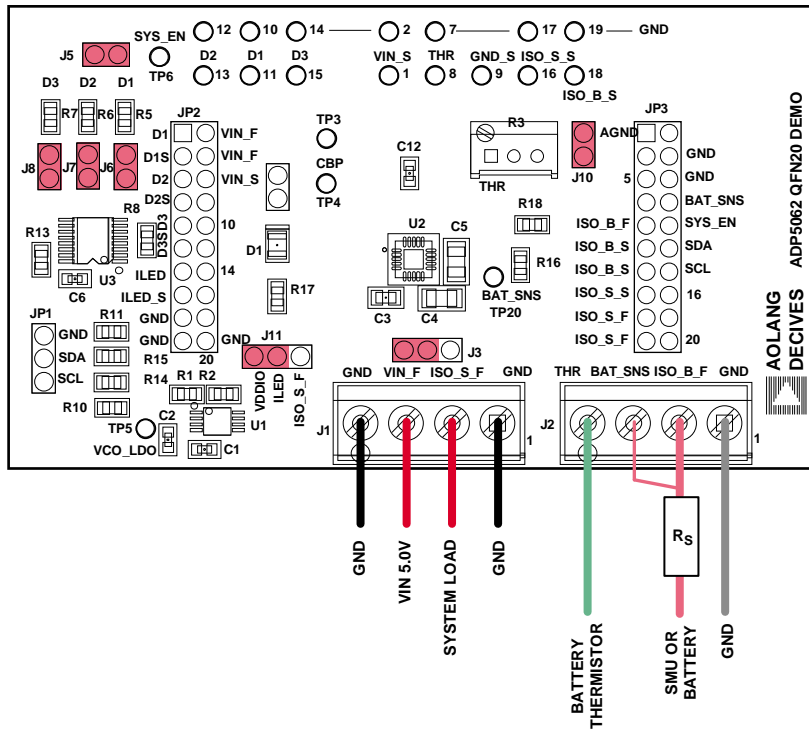

Figure 5. ADP5062 LFCSP Demo Board Typical Operation Setup
The ADP5062 fast charge constant voltage (CV) regulation is optimized for batteries with series resistance in the 100 m Ω to 250 m Ω range. When using a SMU or a battery simulator connected to the ISO_Bx , set the series resistance (R_s in Figure 5) within this range.
The THR input of the ADP5062 evaluation board is equipped with the 50 k Ω trimmer resistor (R3) and Jumper J10. When using an actual Li-Ion NTC thermistor terminal, configure the board according to Figure 5.